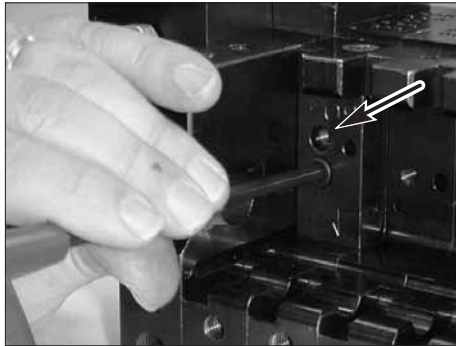

Figure 7-26 Using a hex wrench to remove an adhesive diverter plate and location of screw hole for inserting the shaft puller
12. Using an M5 hex wrench, remove the adhesive diverter plate by first removing its mounting bolt and then threading the shaft puller into the screw hole indicated in Figure 7-26.